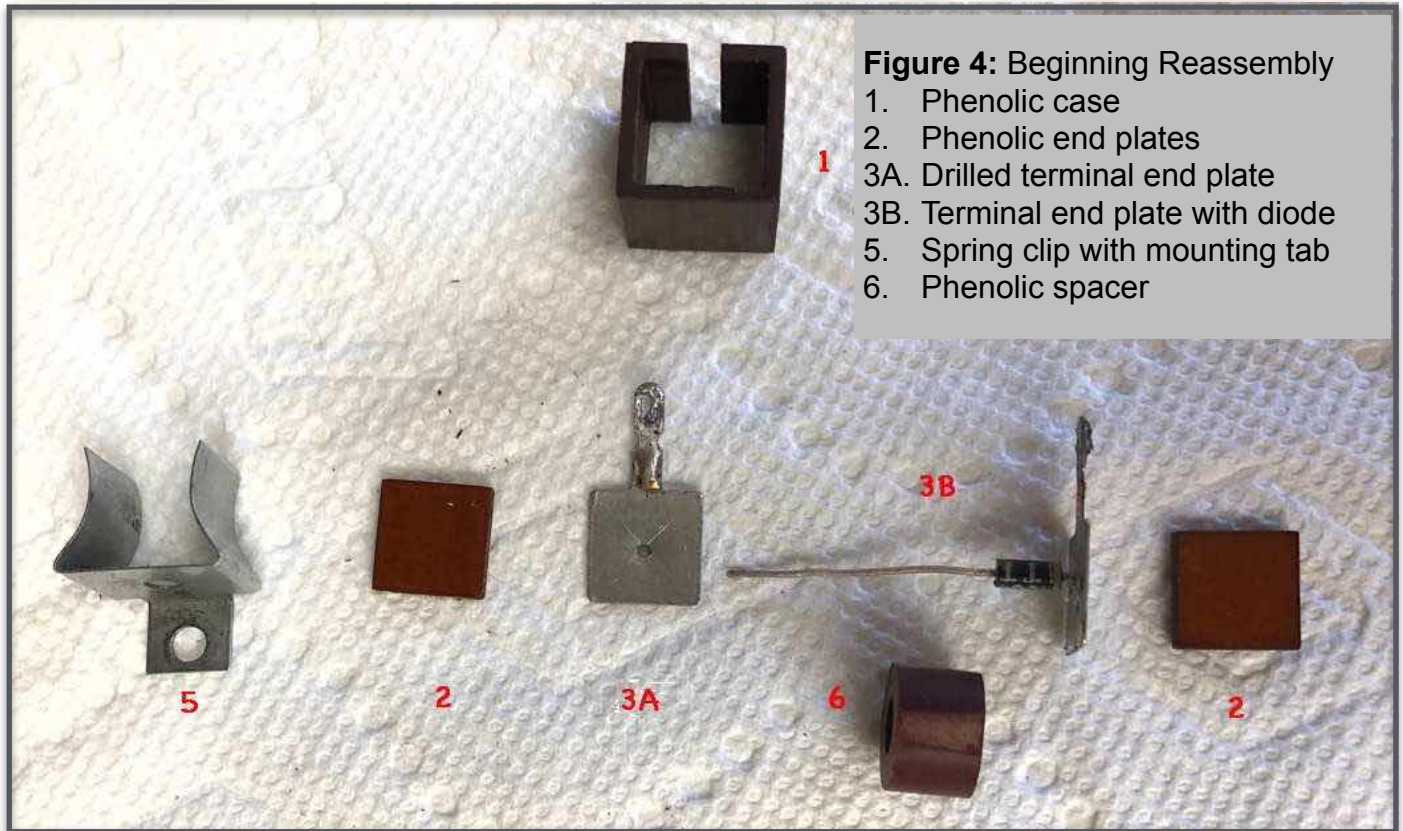

Figure 4: Beginning Reassembly
- Not shown - Spring clamp with mounting tab (#5 in figure 4)
placed into the spring clip with mounting tab. This has to be assembled so the cathode terminal end, with its lug pointing up, is towards you when the mounting clip is pointed to the right (See figures 4, 5, 6 and 7).